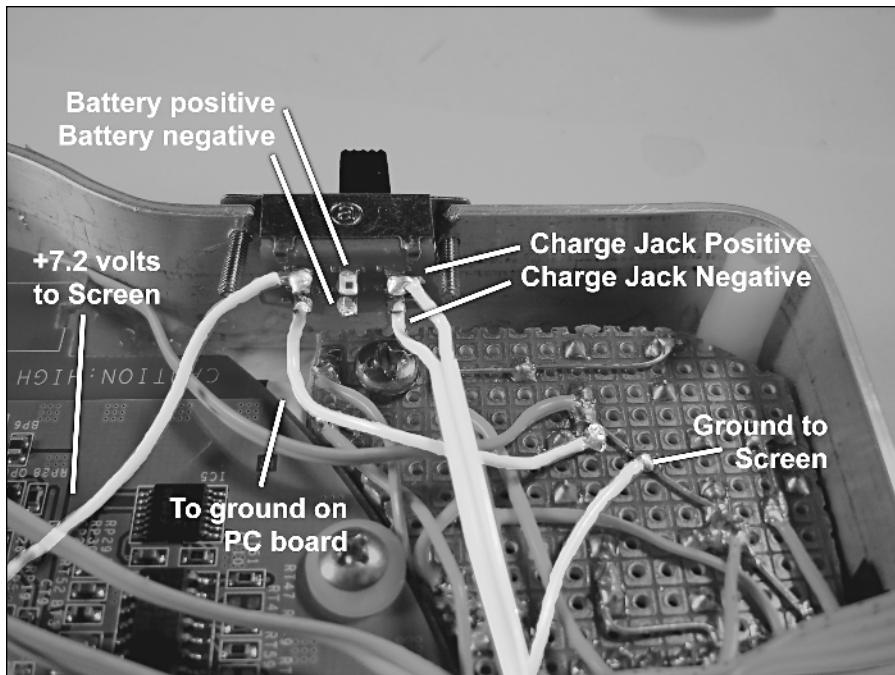

FIGURE 10-35: The ON/OFF switch installed, with wiring.
- Take your Radio Shack catalog #275-407 DPDT switch and insert it into its slot as shown in Figure 10-35. Drill two small holes in the aluminum to insert the screws. Wire the switch as described in the following steps.
Reference Figure 10-35 when instructed to connect positive and negative from the battery to the on/off switch. If you insert the wires through the eyelet holes on the switch's leads, make sure the top and bottom ones don't touch each other. That would be bad—short-circuit city!
2. With the shoulder button wires attached, you can then connect the *positive and negative battery wires* to the on/off switch, also shown in Figure 10-35. If you've forgotten which wire is which (or forgot to mark them), battery positive comes out near the blue capacitors, and negative emerges from under the center of the SNES board.